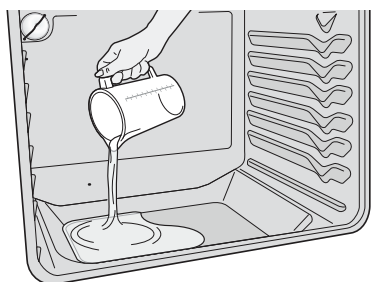

Figure 19: Pour water onto the oven bottom
3. Pour 8 oz (235 ml) of distilled or filtered water onto the oven bottom (See Figure 19). Close the oven door.